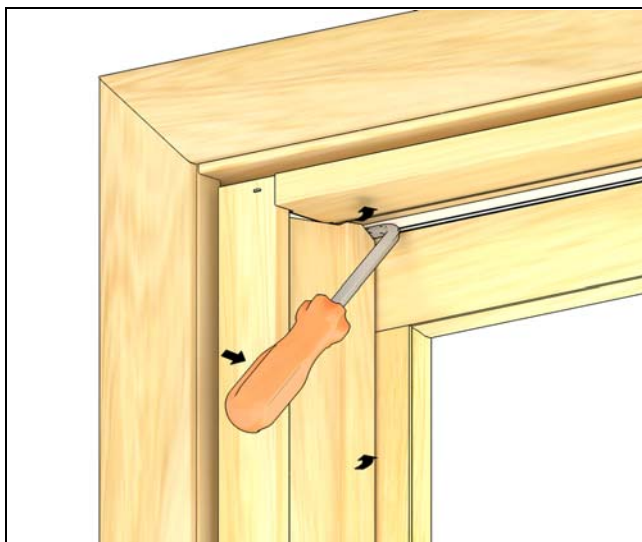

Figure 19
1. Transom - Remove parting stop. Then remove wood jamb cover by using a tool or hooking screwdriver and inserting into notch at the top of each jamb cover. See Figure 19.